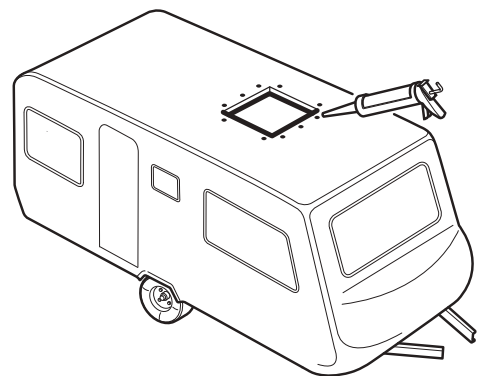

Fig. 8
- Fill screw holes with car body sealant (Fig. 8).